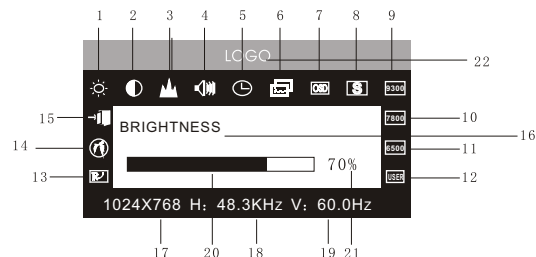

Fig.10
3.4.2 The meaning of the menu in DVI mode [as Fig.10]